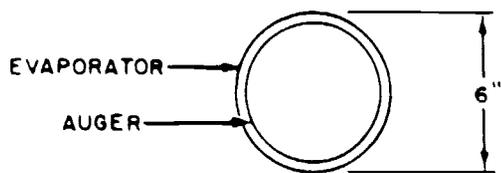

Figure 13. Icemaking Section (Top View)
**Auger-Type Ice-Flake Machine.** This is a very simple type of ice maker. The ice-making mechanism consist of two cylinders, one inside the other (see figure 13). The space between the two cylinders is the evaporator. The inside is the freezing section where the ice is formed. The cylinder is approximately the size of a 1-lb coffee can installed in a upright position.